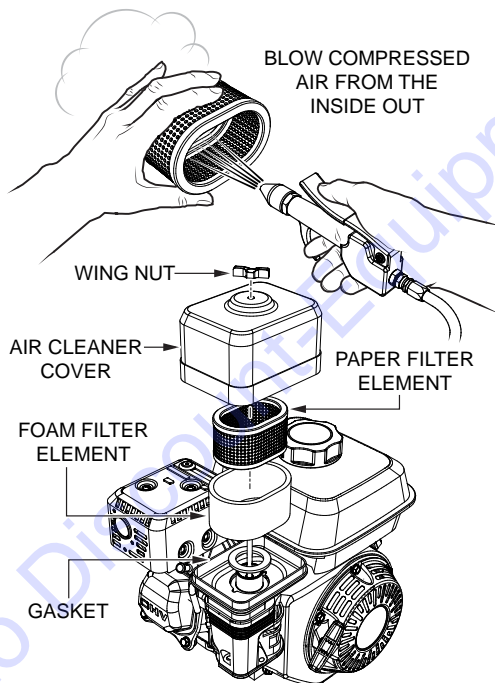

Figure 30. Engine Air Cleaner
1. Remove the air cleaner cover and foam filter element as shown in Figure 30.
2. Tap the paper filter element (Figure 30) several times on a hard surface to remove dirt, or blow compressed air [not exceeding 30 psi (207 kPa, 2.1 kgf/cm²)] through the filter element from the air cleaner case side. **NEVER** brush off dirt. Brushing will force dirt into the fibers. Replace the paper filter element if it is excessively dirty.